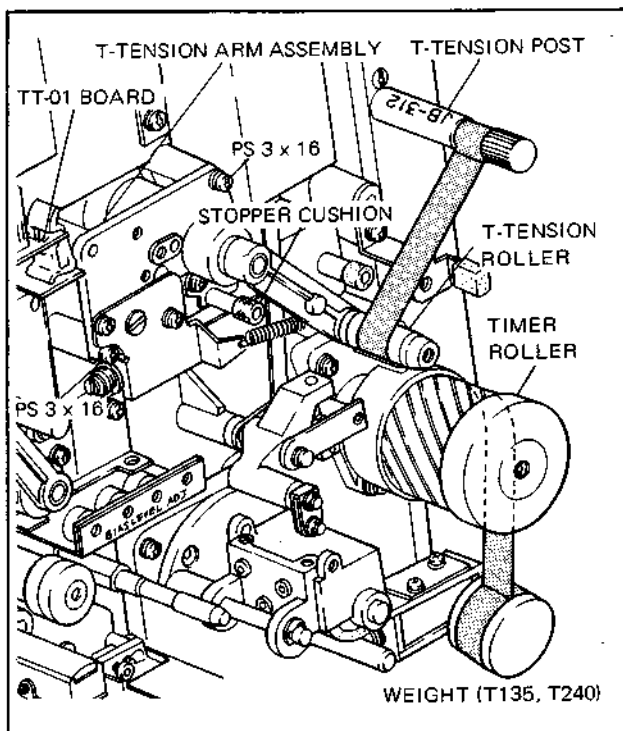

Fig. 3-41. T-Tension Arm Replacement
- B. When the parts (bearing etc.) composing the T-tension roller shown in Fig 3-41 have been replaced, confirm the tape path according to section 3-24-2.
2. Remove the two screws (PS3x16) shown in Fig. 3-41, and remove the T-tension arm assembly. Install the new T-tension arm assembly, and insert the connector CN004 at its original position.
3. Install the T-tension post (the part of the prepared adjustment tool in the position shown in the right of Fig. 3-41. Apply the weight marked T135 as shown in the figure.